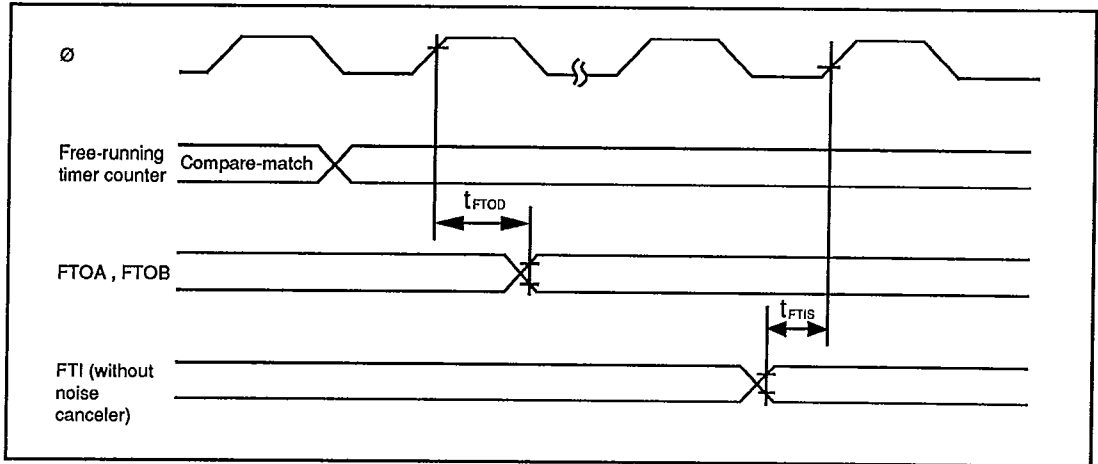

Figure 15-11. Free-Running Timer Input/Output Timing
- 15.3.3 16-Bit Free-Running Timer Timing Figures 15-11 to 15-12